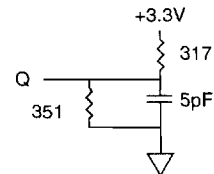

Fig. 2 OUTPUT LOAD EQUIVALENT
- Output loading is specified with CL = 5pF as in Fig. 2. Transition is measured  $\pm 500mV$  from steady state voltage.
- The load used for VOH, VOL testing is shown in Fig. 2. AC load current is higher than the shown DC values. AC I/O curves are available upon request.